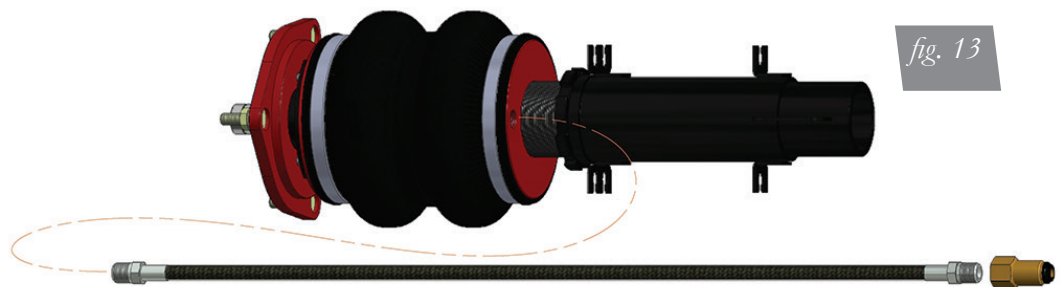

*fig. 10*
4. Remove the cover from the strut rebound washer (fig. 10). Support the strut and remove the rod nut and rebound washer (fig. 11). Remove the strut from the vehicle (fig. 12).